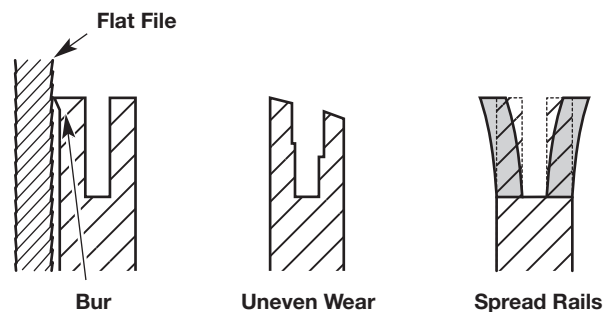

Fig. 23
3. Frequently check the guide bar for damage (Fig. 23). Feathering and burring of the guide bar rails (the ridges on either side of the bar groove) is a normal process of guide bar wear. Such faults should be smoothed with a file as soon as they occur (Fig. 23). A guide bar with the following faults should be replaced: